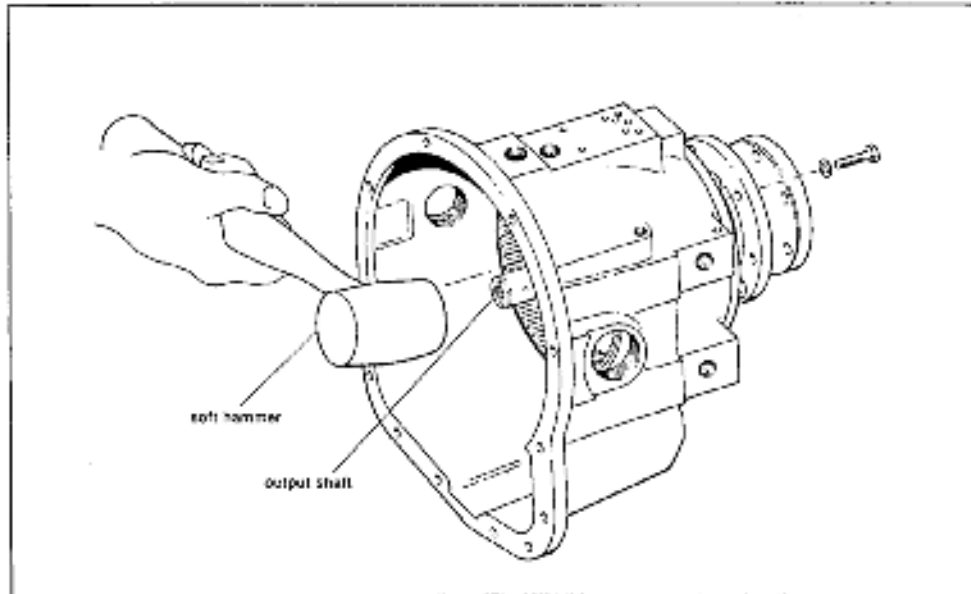

Figure 25. Removal of output shaft from housing.
1. Remove hex head capscrews (6) and lockwashers from bearing retainer. It is normally not necessary to remove rear cover.
2. From engine end of housing, (See fig. 25), tap output shaft with 'soft' hammer out of housing (bearing, bearing retainer oil seal, etc. Will come with shaft).